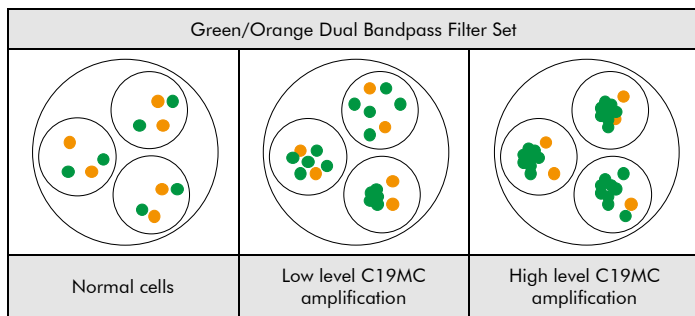

Fig. 2: Expected results in normal and aberrant nuclei
**Normal situation:** In interphases of normal cells or cells without an amplification involving the C19MC locus, two green signals and two orange signals appear (see Fig. 2).
**Aberrant situation:** In cells with an amplification of the C19MC locus, an increased number of green signals or green signal clusters will be observed (see Fig. 2).